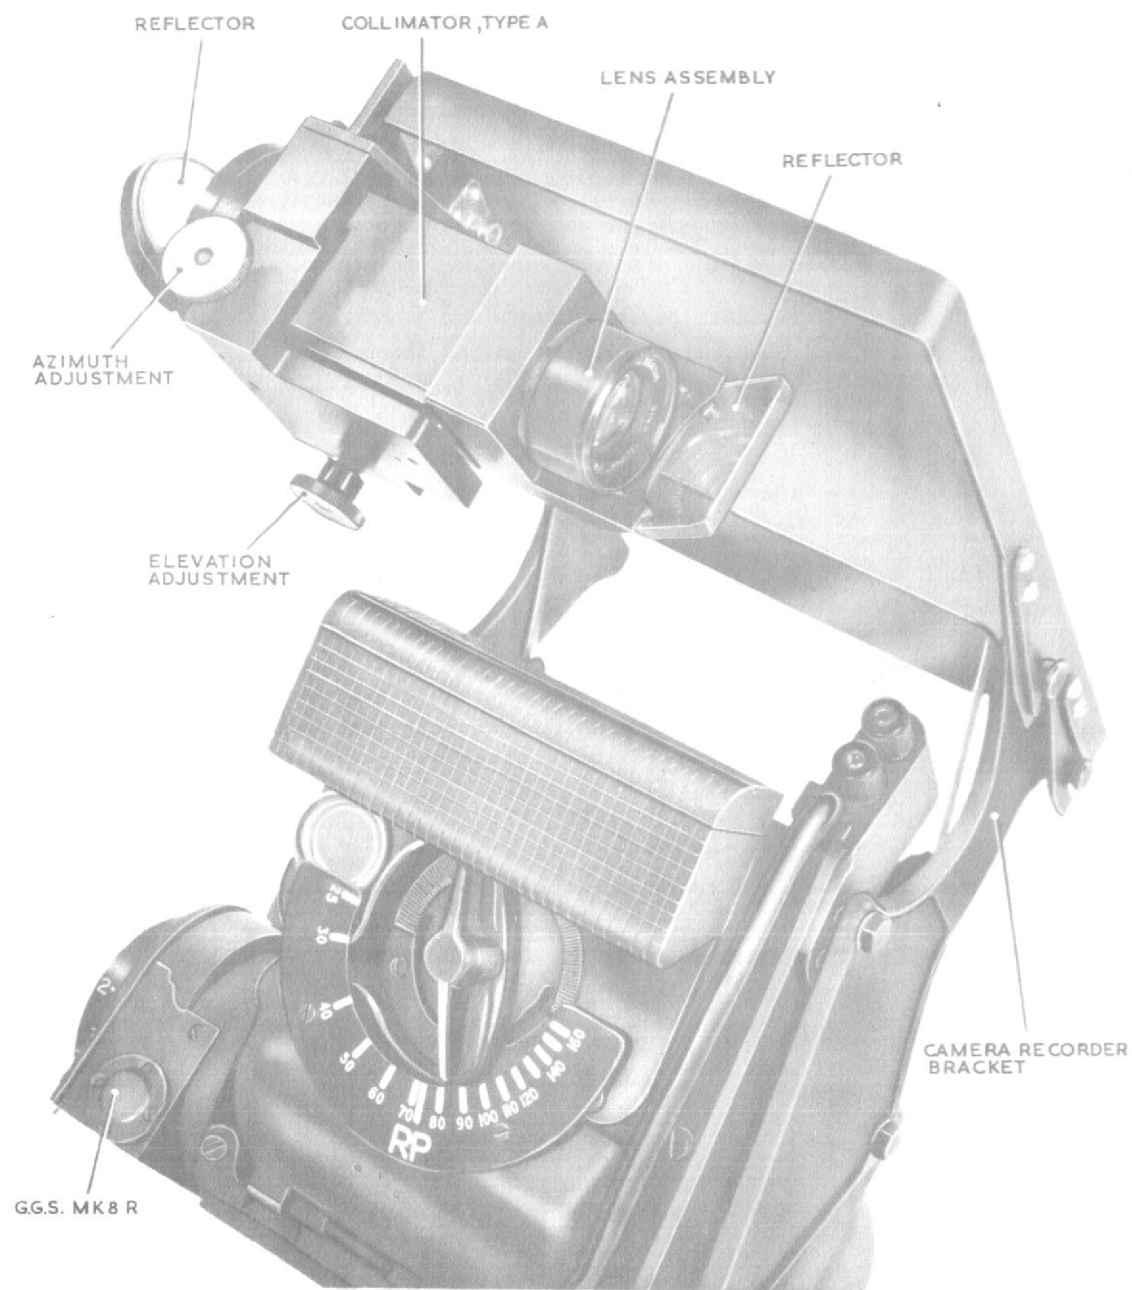

Fig.1 Collimator, Type A fixed to sighting head
- (1) Fit the collimator, Type A to the camera recorder brackets (fig.1).
- (2) (a) Select G1.